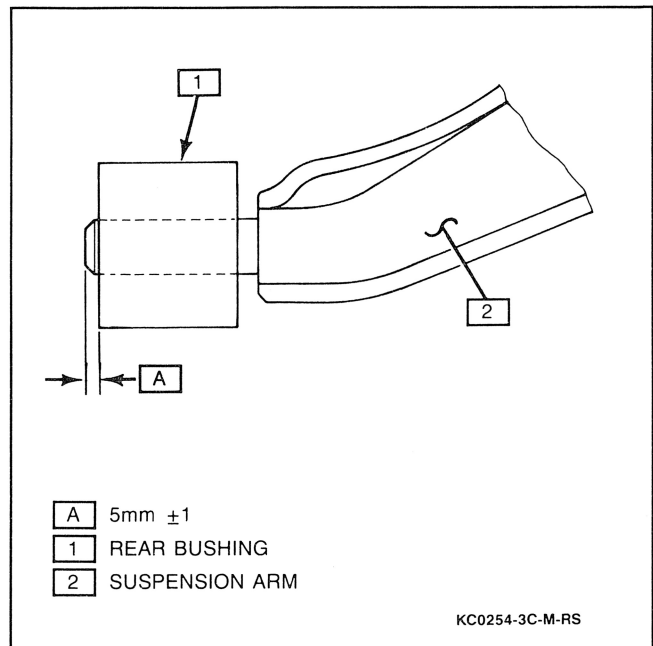

Figure 16 Rear Bushing Position
- Release strut spring from J 34013-A compressor and remove individual parts of the strut assembly as needed (Figure 16).